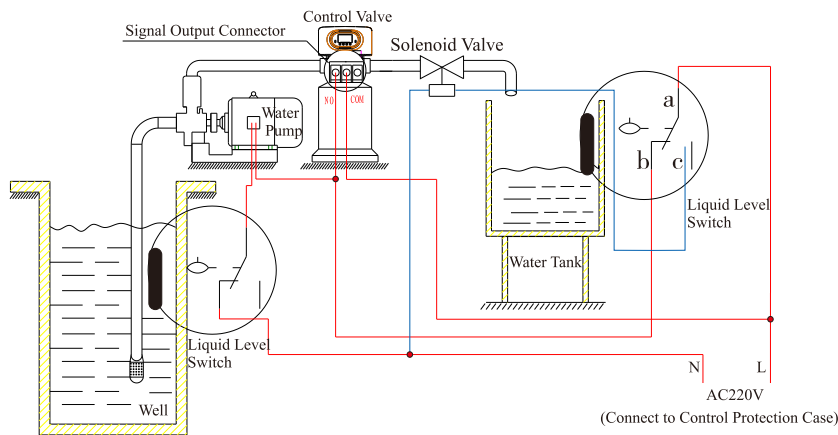

Figure3-5 Wiring of Liquid Level Controller Controlling 220V Inlet Pump
**Instruction:** For the system using well or middle-tank supplying water, switch of liquid level controller and valve together control pump opening or closing. The wiring refers to Figure 3-5: